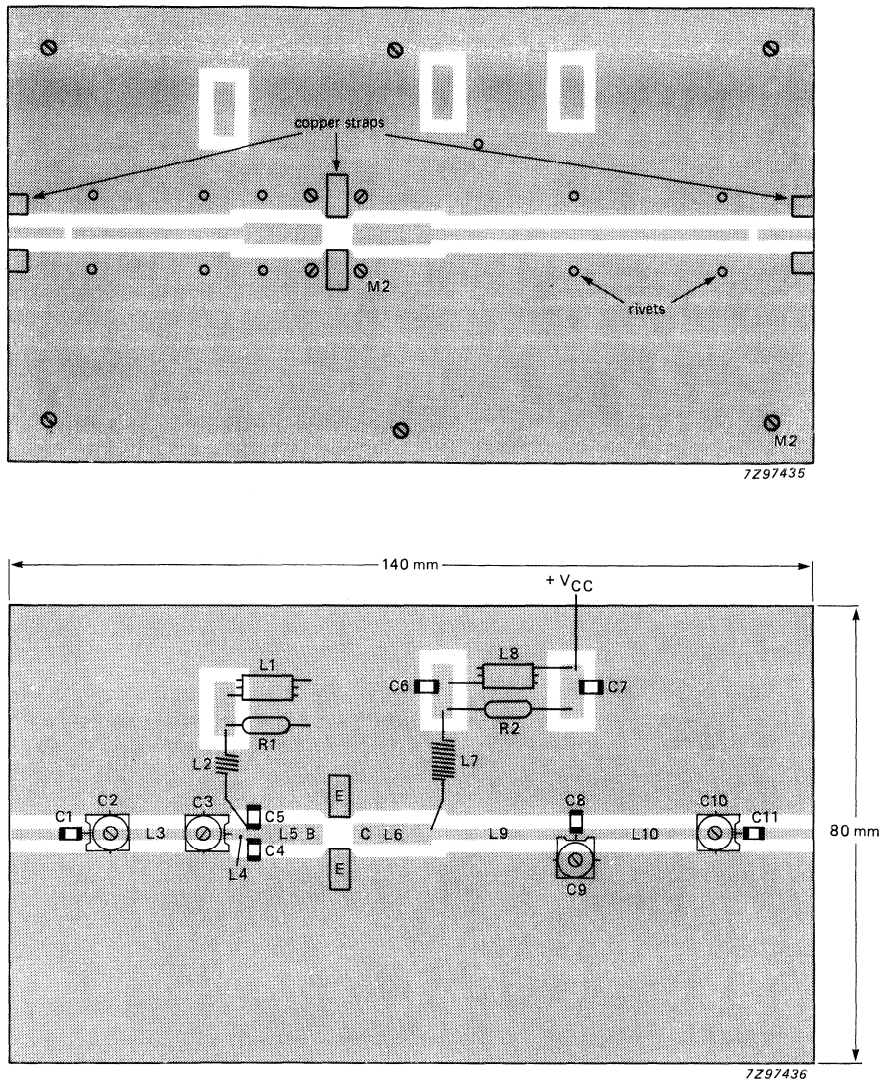

Fig. 6 Printed-circuit board and component lay-out for 900 MHz class-B test circuit.
** Device mounted on a printed-circuit board (see Fig. 6).
The device is capable to withstand a full load mismatch ($VSWR = 50$; all phases) at $P_L = 1.5 \text{ W}$ up to a supply voltage of 15.5 V at $T_a = 25 \text{ }^\circ\text{C}$. Device mounted on a printed-circuit board (see Fig. 6).